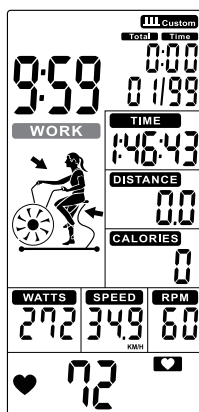

Figure 36
- ⑤ Cycle time counts down from the preset total time and **WORK** flashes once per second . Then TOTAL TIME, DISTANCE, CALORIES, WATTS, SPEED & RPM start calculating, counting displays '01/XX'(Figure 36).